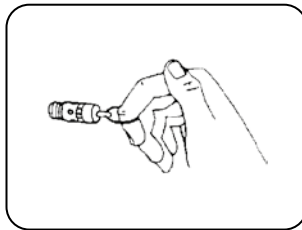

FIGURE 8.2
11. Check manual or automatic purger functioning (Figure 8.2) (time button setting at the purger or parameter P100 and P101, setting, according to product version).
- Check the operation of the safety valve (Figure 8.2).